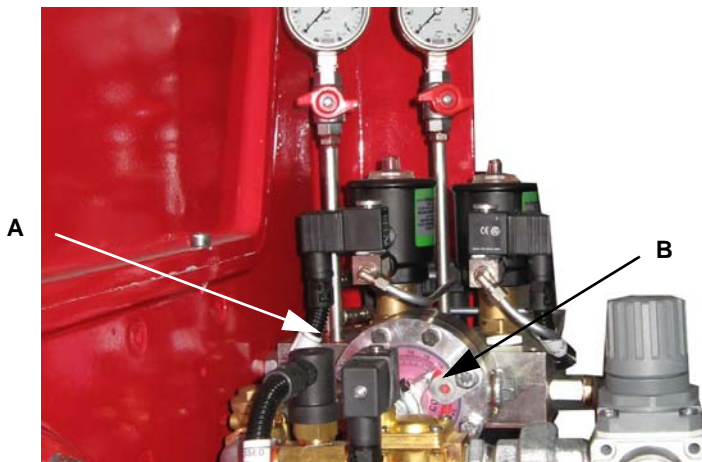

Fig. 33
- Remove and clean the compressed air governor **A** in Fig. 33
- Remove and clean the oil governor **B** in Fig. 33